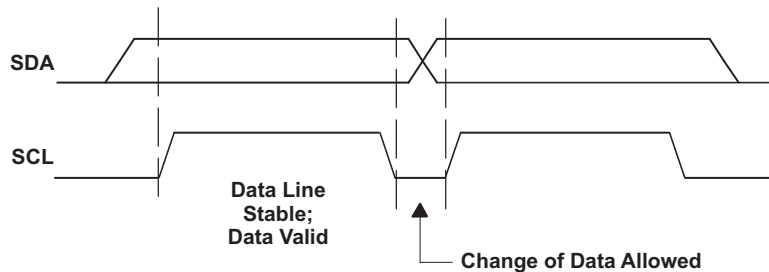
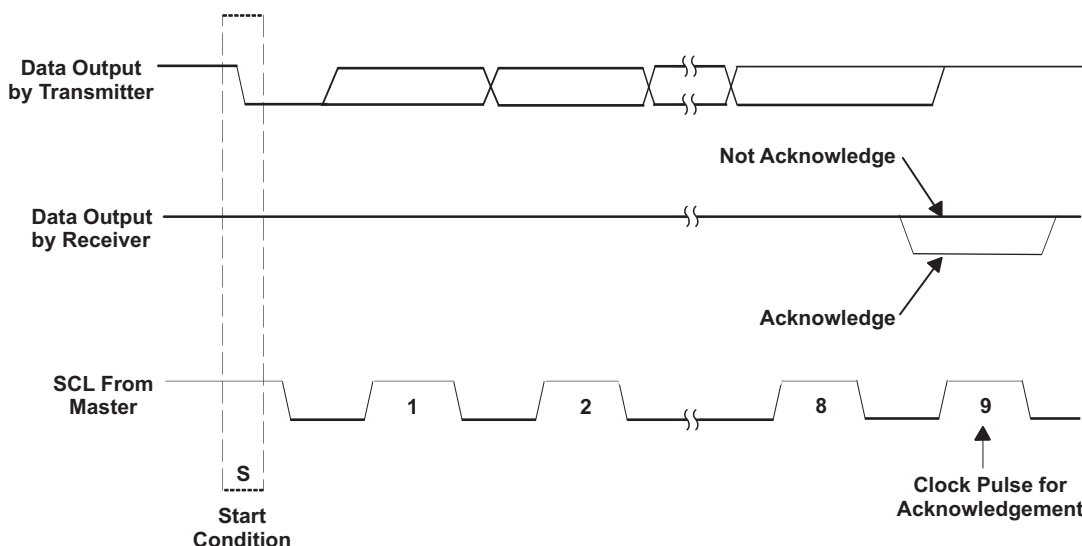

Figure 6. I²C Bit Transfer
Figure 7. I²C Acknowledge
- The master then generates the SCL pulses and transmits the 7-bit address and the *read/write direction bit* R/W on the SDA line. During all transmissions, the master ensures that data is *valid*. A *valid data* condition requires the SDA line to be stable during the entire high period of the clock pulse (see Figure 6). All devices recognize the address sent by the master and compare it to the respective internal fixed addresses. Only the slave device with a matching address generates an *acknowledge* (see Figure 7) by pulling the SDA line low during the entire high period of the ninth SCL cycle. On detecting this acknowledge, the master knows that a communication link with a slave has been established.